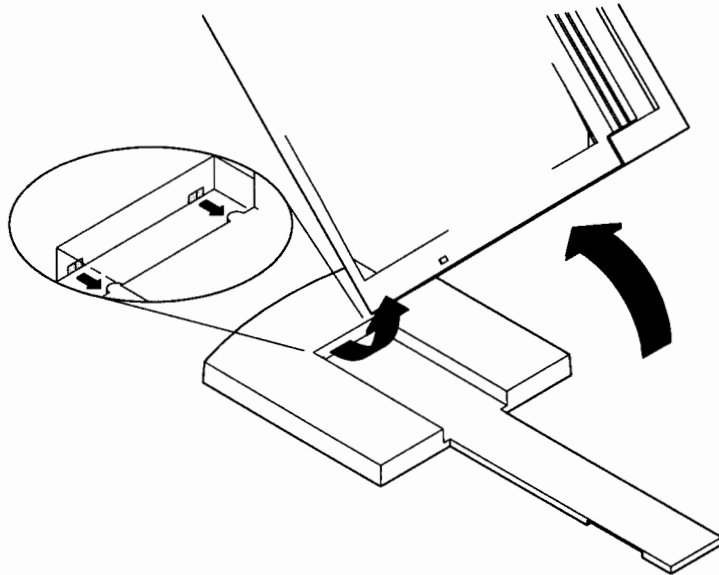

Figure B-1. Removing the System Unit from the Floor Stand
2. If your workstation is installed with its tower stand, tilt up the front of the system unit and lift it out of the stand, as shown in Figure B-1.